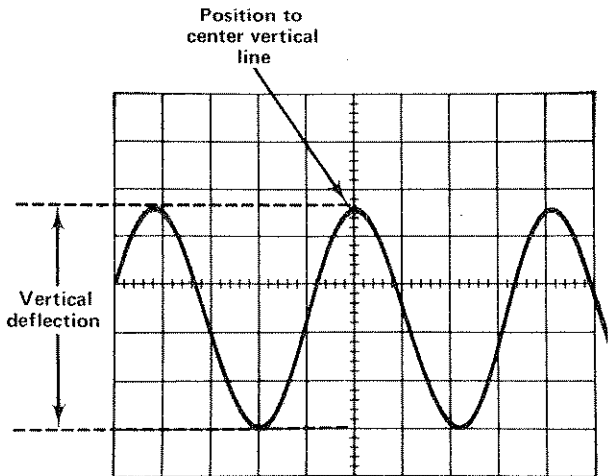

Fig. 3. Measuring peak-to-peak voltage.
c. Measure the peak-to-peak amplitude of the display or waveform, in graticule divisions (see Fig. 3).